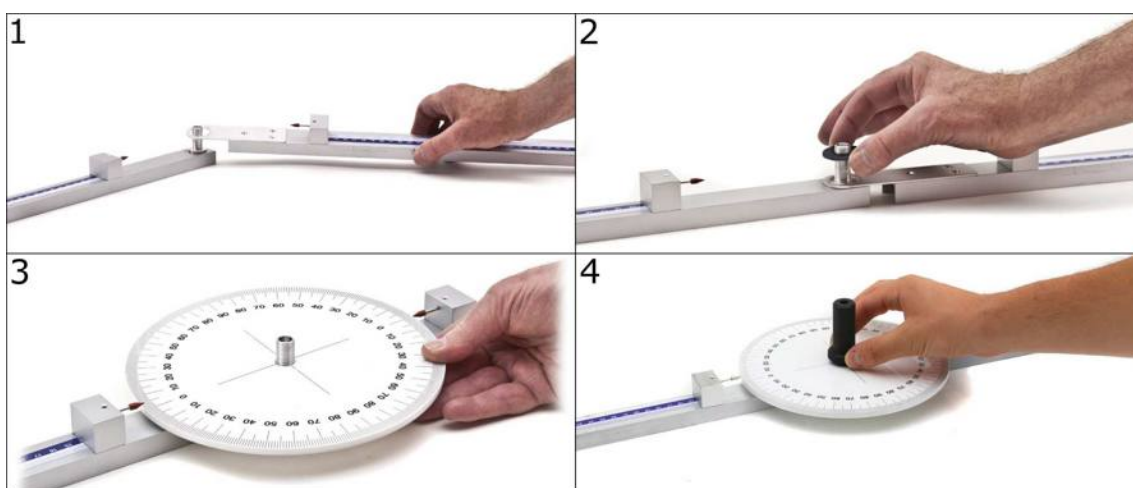

Fig. 4: Set-up of rail.
To assemble the articulated track with protractor, (1) first hook the short arm (having connection flange) to the long one (having pivot). (2) Then put the washer in the pivot. (3) Insert the protractor on the pivot at 0°, and (4) screw the black PVC yoke onto the pin (Fig. 4).